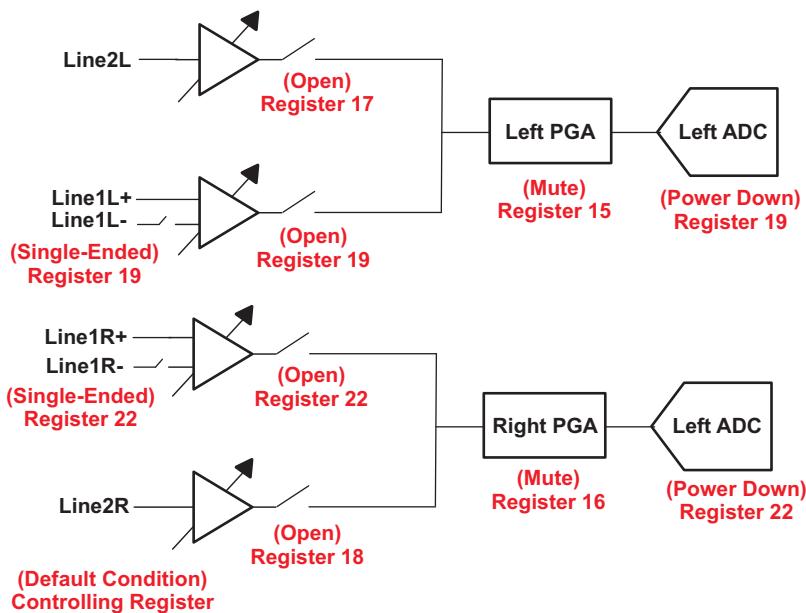

Figure 1. ADC Stereo Inputs
The ADC has two sets of stereo inputs, Line 1 Left and Right and Line 2 Left and Right. Line 1 Left and Right can be configured for single-ended or differential inputs (Figure 1). The default is single-ended with only the Plus (P) Inputs being used. Line 2 Left and Right are always single-ended. By default, none of the inputs is routed to the PGA. By default, both Left and Right PGAs are muted and the Left and Right ADCs are powered down.